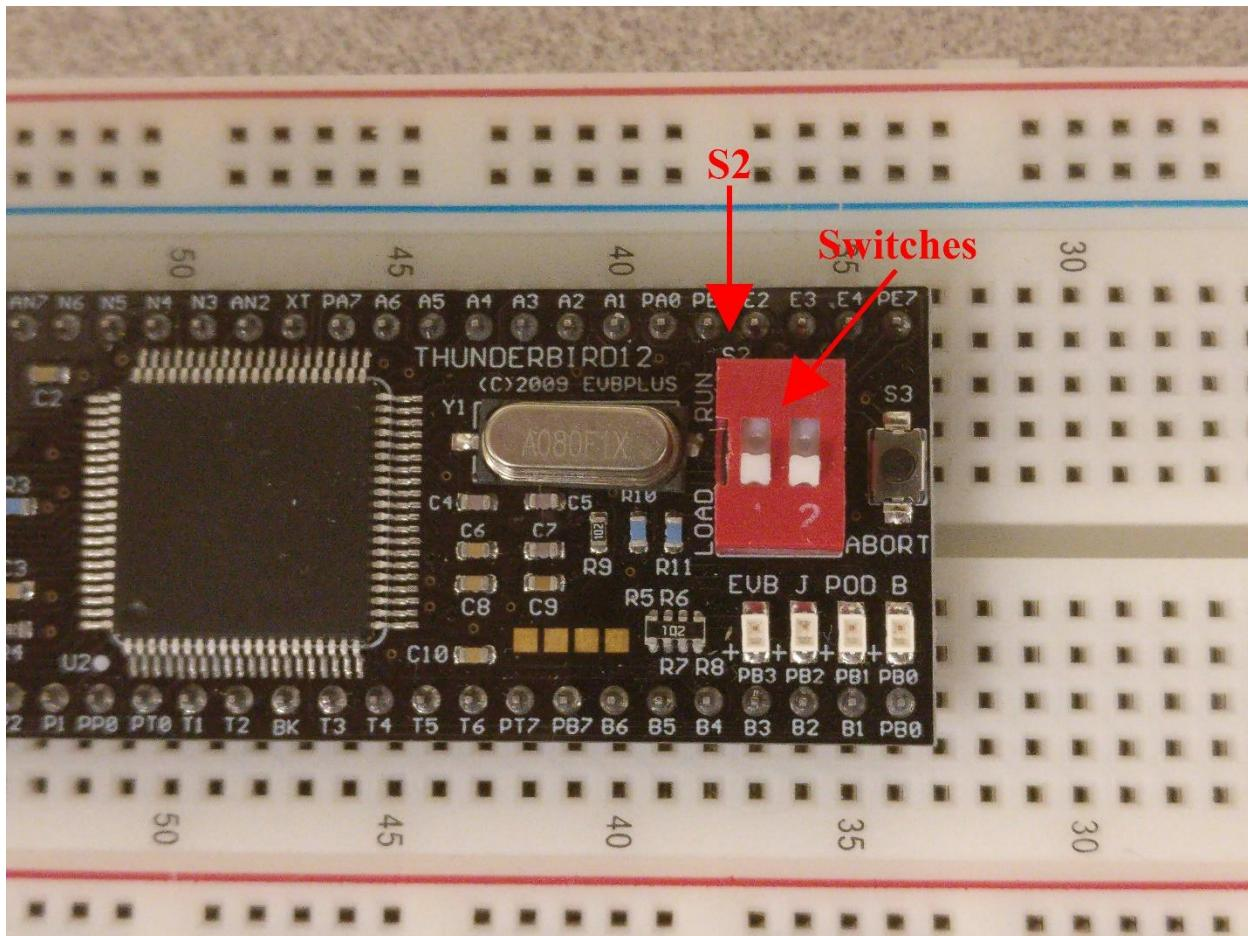

Figure 8-3 – Board configuration showing both on-board switches in down position
2. There will be a red module on the Thunderbird with two white switches. Oriented correctly, the switches will be on the right side of the board with the label “S2” just above it. Ensure that both switches are in the down position. Refer to Figure 8-3 for an example of what the switch configuration should look like.